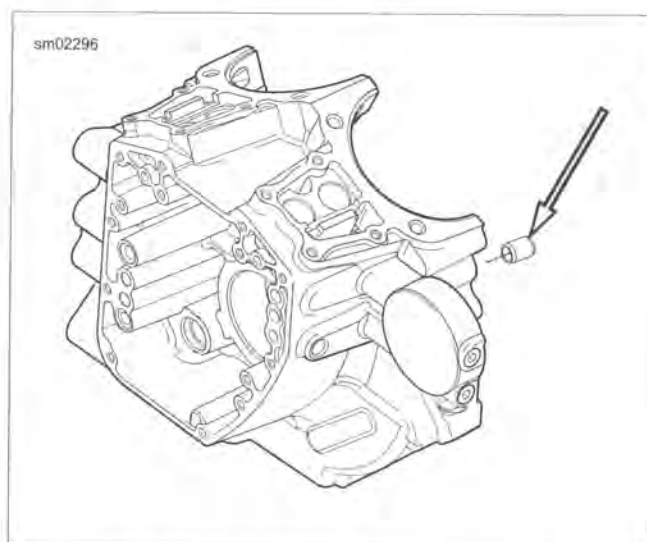

Figure 3-120. Right Crankcase Forward Dowel Pin (Rear Dowel Pin Not Shown)
5. See Figure 3-120. Remove two dowel pins in split line face of right case half.